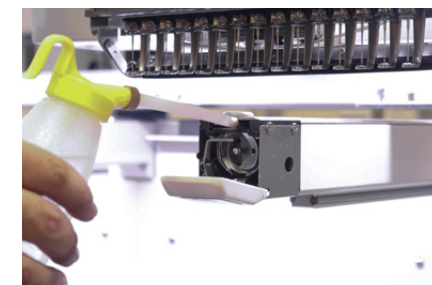

Figure 104
- Remove the bobbin case and clean the hook assembly area with a soft brush, air compressor with a moisture filter or approved compressed air dusters like Dust Off. **See Figure 104.**